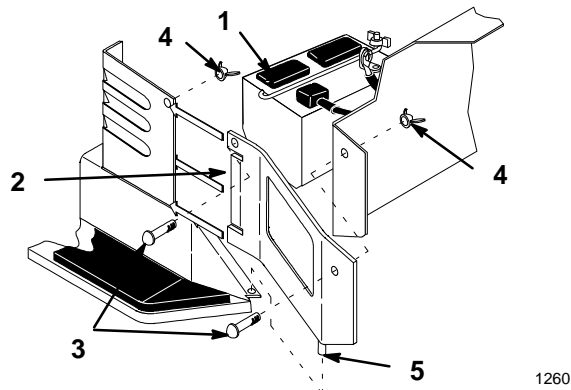

Figure 37
3. Remove side panels for clearance when removing battery (Fig. 37). Remove the wing nuts and screws and lift up to clear pin and slide panel tabs out from steering tower.
7. Install the battery into the chassis (Fig. 37).
11. Install side panels by sliding tabs into steering tower and inserting pin into flange of footrest. Secure with screws and wing nuts (Fig. 37).